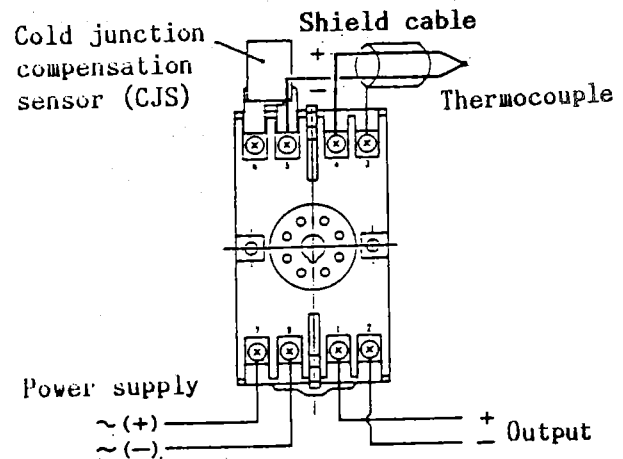

Fig.2
2. Make the connections as per the connection diagram at Fig.2 and use the cable conformable to the rated capacity of the circuit. Confirm that the production numbers of cold junction compensation sensor (CJS) and transducer are conforming with each other. Because the cold junction compensation sensor (CJS) has no interchangeability, the sensor of the same production number as that of the transducer must be used.
3. When the external noise is expected to affect the input line, it will be effective to use the shield cable for input and to connect the outer shield to S-terminal at (3).